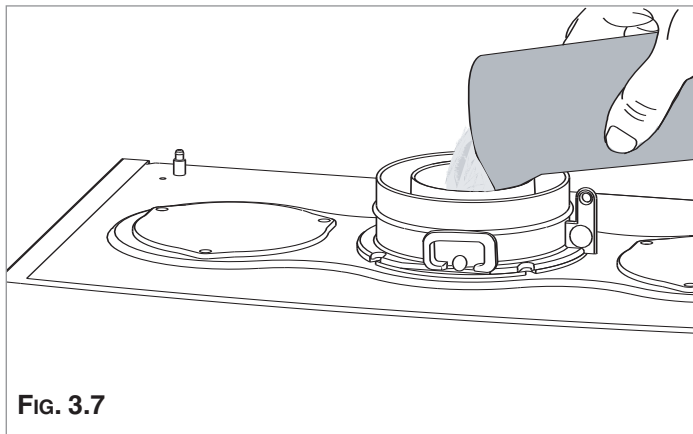

FIG. 3.7
2. Fill the boiler condensate trap with water, by pouring 1/2 a litre of water into the exhaust flue connector (see fig. 3.7). **N.B. In the event of a prolonged period of system shutdown, the condensate trap should be filled before any renewed use. A shortage of water in the trap is dangerous because it could possibly lead to a leakage of fumes into the air.**